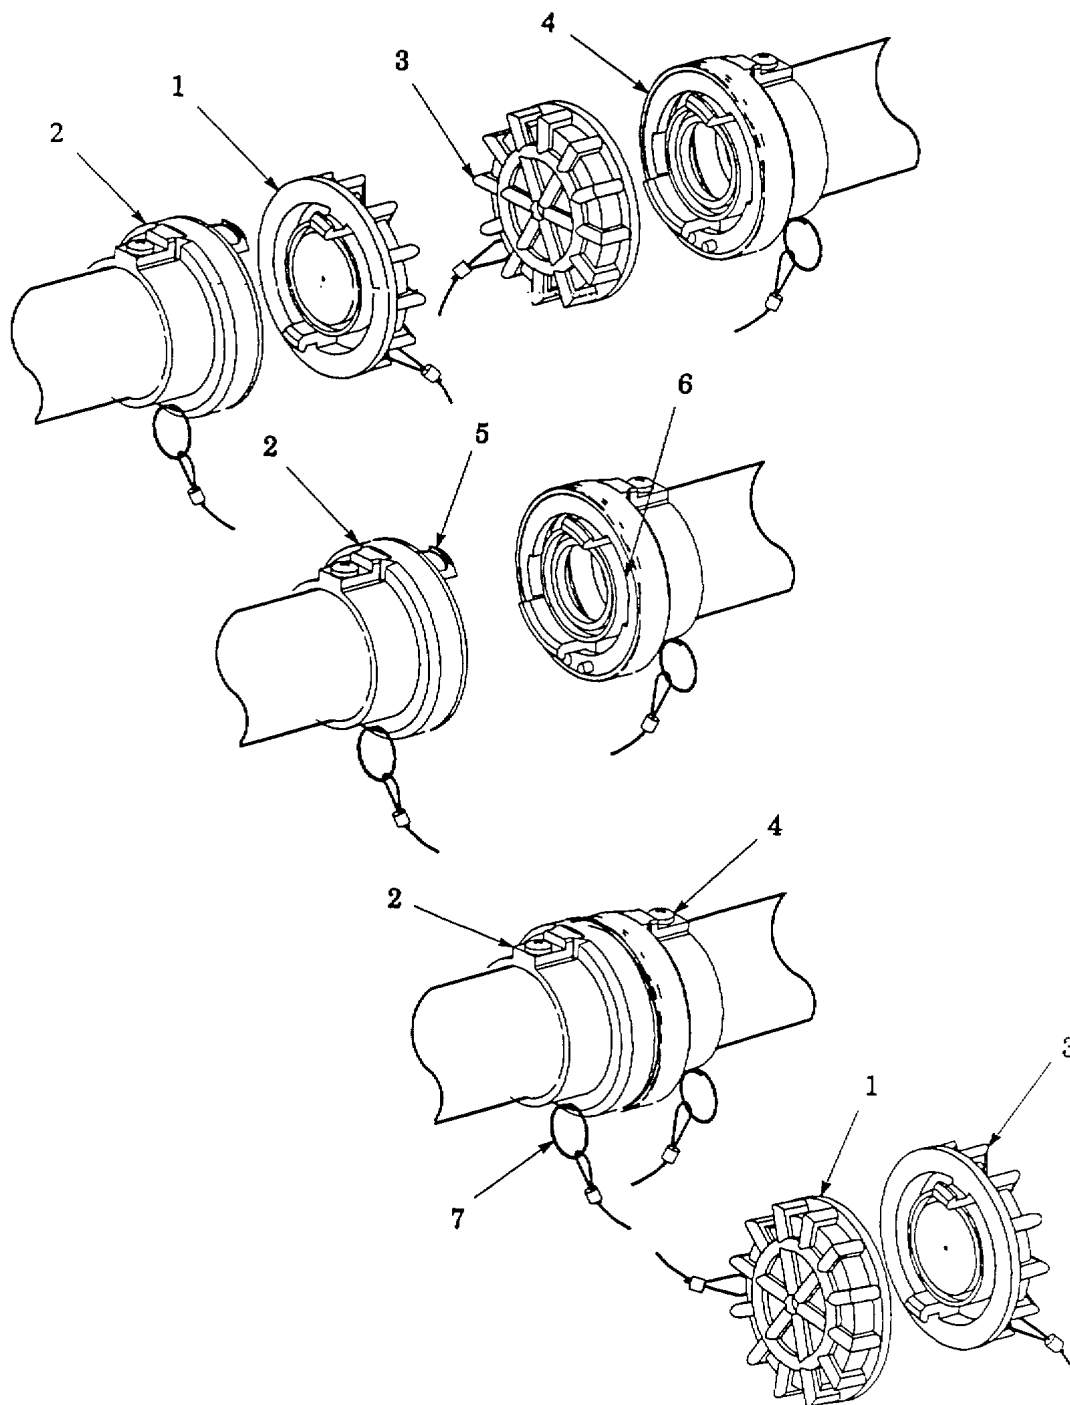

Figure 2-9. Non-valved Dry Break Coupling Assembly.
- f. Non-Valved Dry Break Coupling Assembly. Refer to figure 2-9.